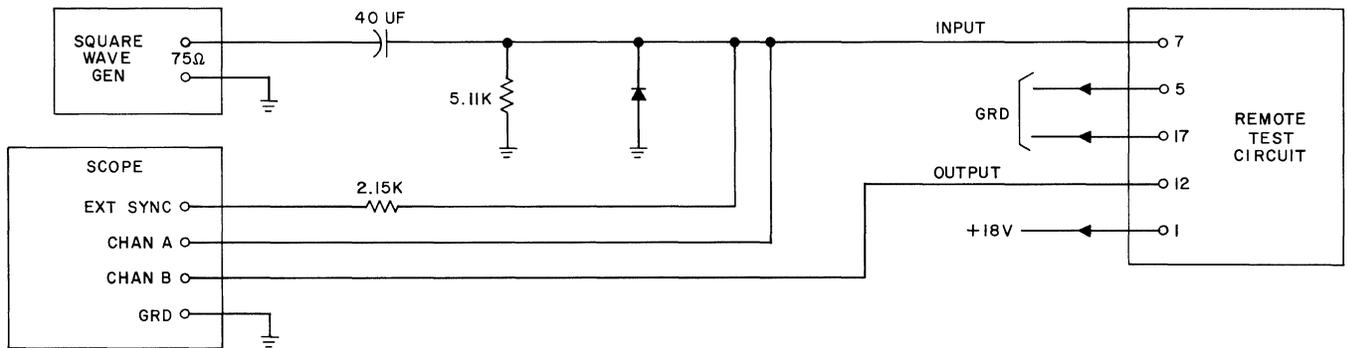
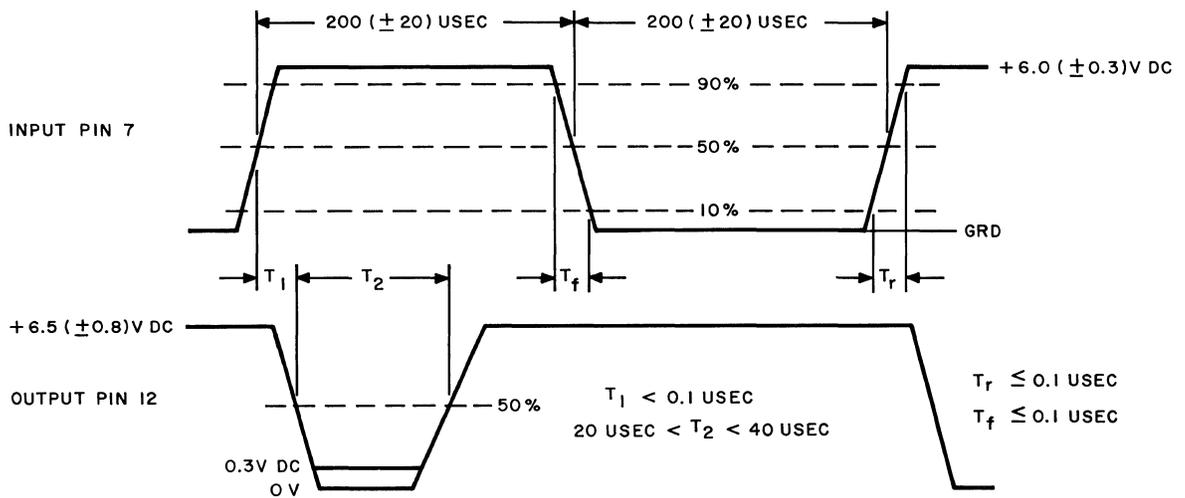

Fig. 43 — Remote Circuit Card Test
Fig. 44 — Remote Circuit Card Test
- (1) With ground connected to terminals 5 and 17 and +18.0 ( $\pm 0.5$ ) volts dc connected to terminal 1, connect the card as in the suggested test circuit shown in Fig. 43. Set the frequency of the square-wave generator to 2.5 kcps ( $\pm 10$  percent).
- (2) Set the scope EXT SYNC TRIGGER SLOPE to (+) positive.
- (3) The input waveform at terminal 7 shall be as specified in Fig. 44.
- (4) The output waveform at terminal 12 shall be as specified in Fig. 44.